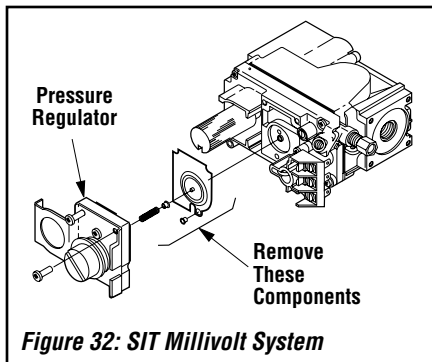

Figure 32: SIT Millivolt System
**Step 5. SIT Millivolt Valve:** Refer to **Figure 32** and the instructions provided with the kit.